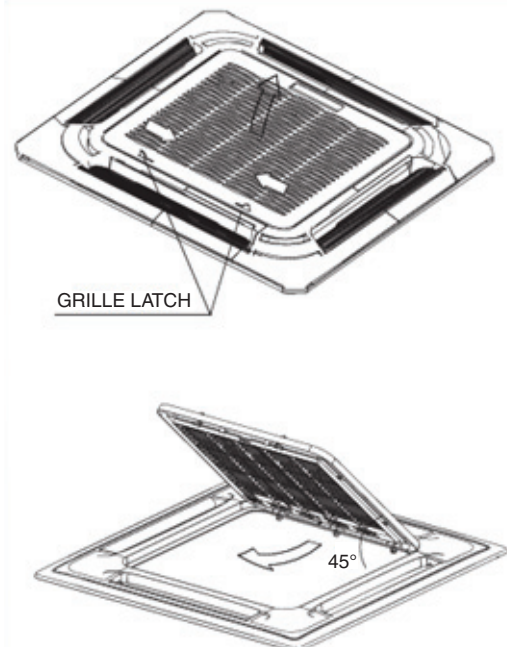

Fig. 7 — Removing Grille from Panel
1. Remove the grille from the panel by sliding the grille latches toward the center of the panel. Lift the grille up at a 45-degree angle and pull to detach it from the panel. See Fig. 7.